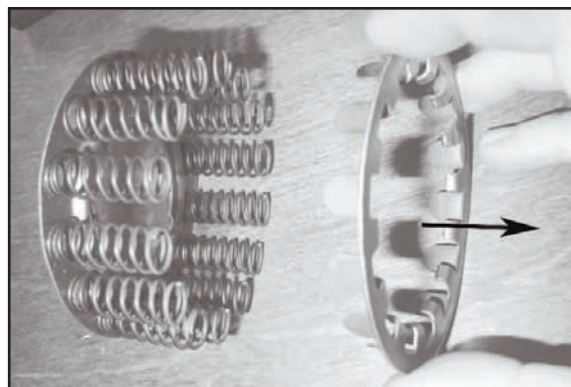

Figure 4
2. If using a late-model return spring assembly (identified by 2 spring retainers on both ends of the springs) remove and discard the lower spring retainer (see Figure 4). Although not required, the early-style return spring used with OEM aluminum pistons is about 10% stronger and is preferred for high rpm applications.